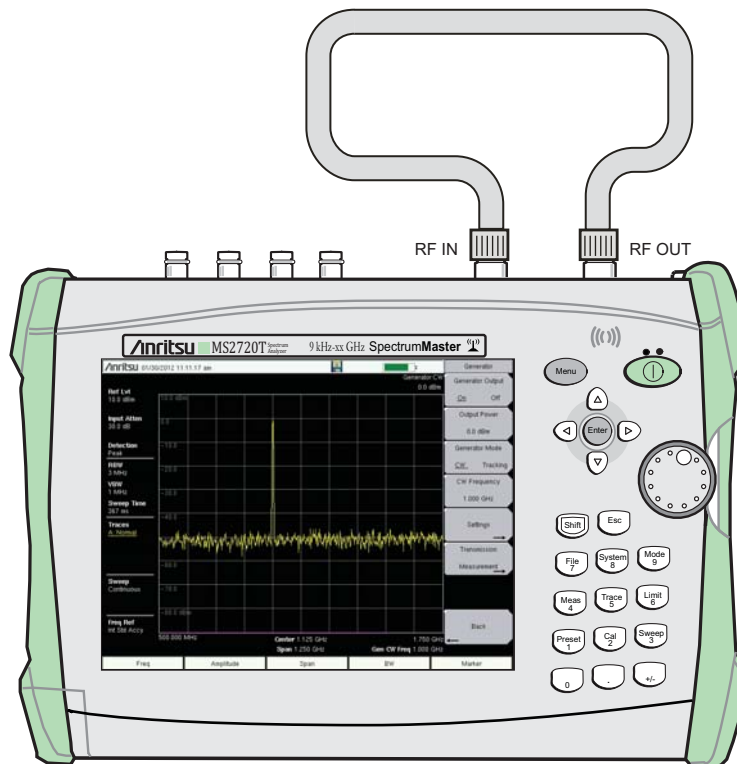

Figure 3-6. Through Cable Setup Example
1. Connect a THROUGH cable between the RF OUT and RF In connectors as shown in Figure 3-6